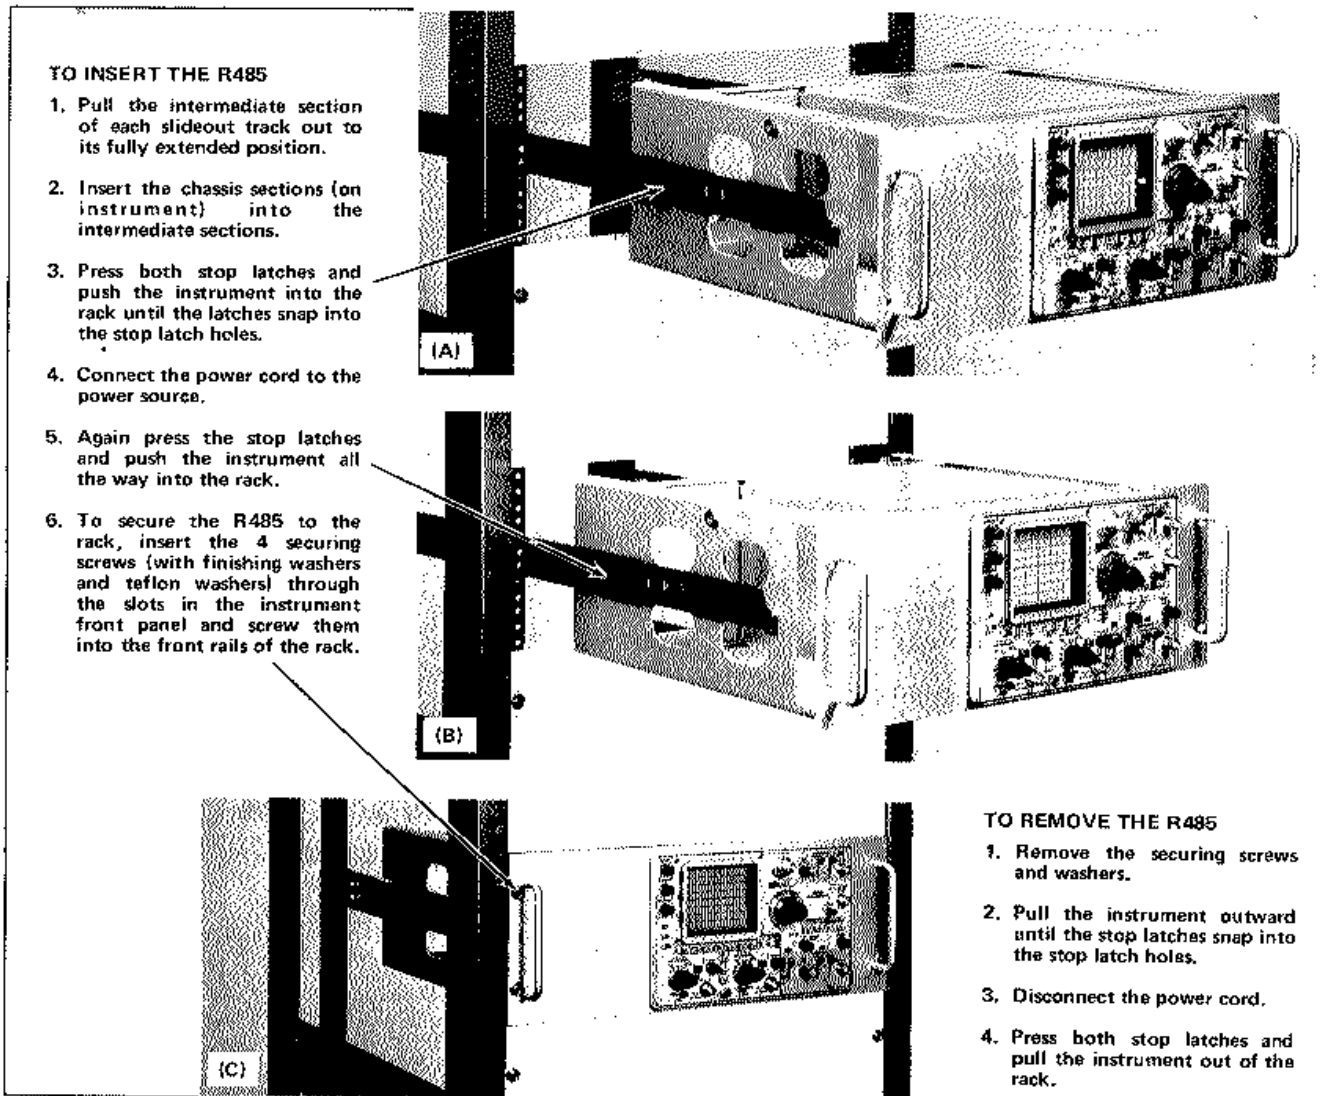

Fig. 6-6. Procedure for inserting or removing the instrument after the slideout tracks have been installed.
4. Refer to Fig. 6-6 to insert the instrument into the rack. Do not connect the power cord or install the securing screws until all adjustments have been made.
8. Push the instrument all the way into the rack and secure it to the rack with the securing screws and washers as shown in Fig. 6-6.
After initial installation and adjustment of the slide-out tracks, the Type R485 can be removed or installed by following the instructions given in Fig. 6-6. No further adjustments are required under normal conditions.